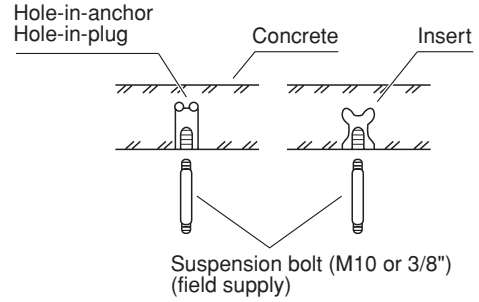

Fig. 3-32
(1) Fix the suspension bolts securely in the ceiling using the method shown in the diagrams (Figs. 3-32 and 3-33), by attaching them to the ceiling support structure, or by any other method that ensures that the unit will be securely and safely suspended.